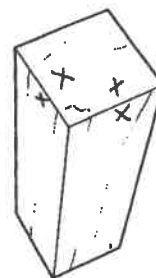

Fig. E-6
3. Mark the leg with X's where you want to place the two rails. See Fig. E-6.